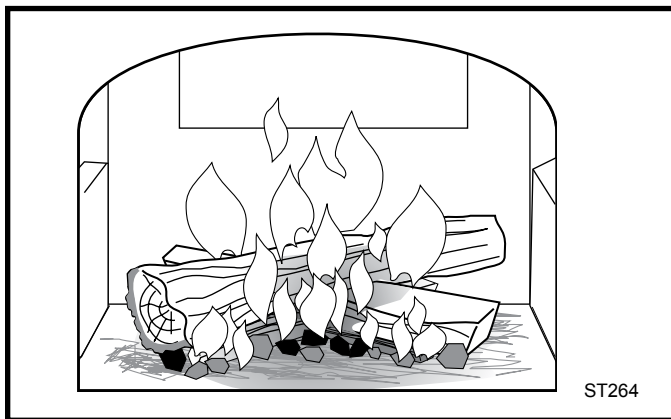

Fig. 38 Add larger pieces of wood as the fire begins to burn well.
4. If your Defiant® has been broken-in previously using Steps 1-3, continue to build the fire gradually. Add larger wood with a diameter of 3-4" (75-100 mm). Continue adding split logs of this size to the briskly-burning fire until there is a glowing ember bed 2-3" (51-75 mm) deep. (Fig. 38) A good ember bed is necessary for proper functioning of the non-catalytic system and may take an hour or more to establish.